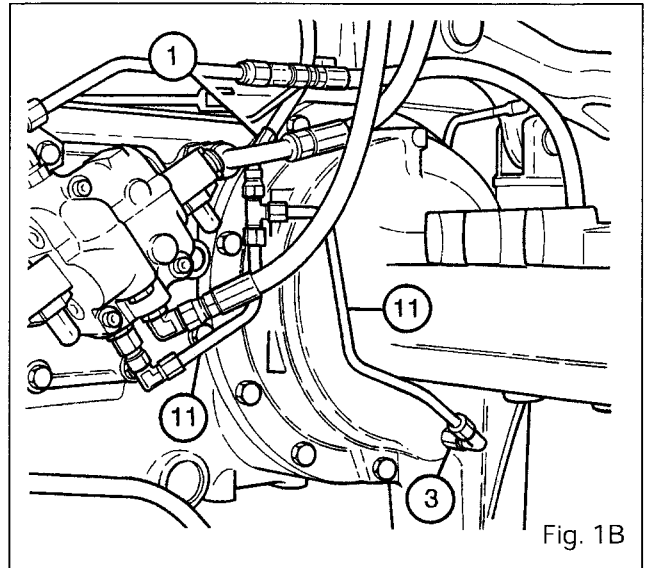

Fig. 1B
8. As from serial number E240024 (open centre), disconnect the hose (1) and the brake lubricating pipe or pipes (11) (according to the side concerned) (Fig. 1B).
31. Reconnect the draft control sensor, the hose (1), and the pipe or pipes (11) to the restrictor coupling (3) (Fig. 1B) and reinstall the stabiliser bracket.